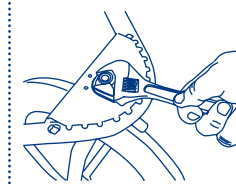

Fig. 6
**DO NOT OVER TIGHTEN** this can cause damage to the wheel housing. (Fig. 6)